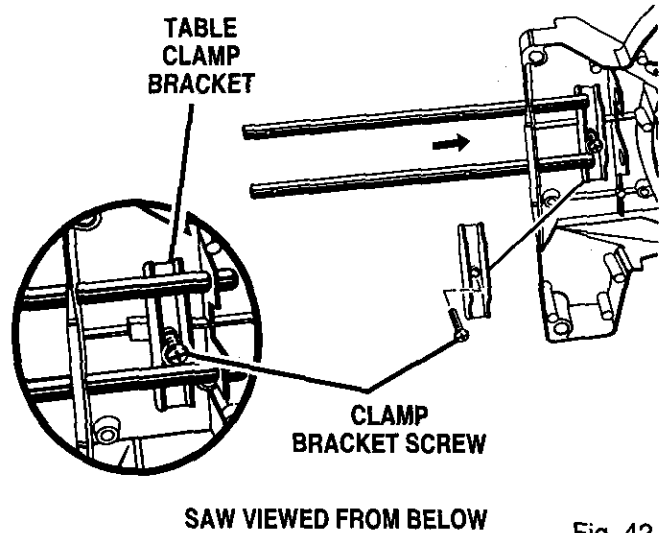

Fig. 42
- Insert support rods into the two holes in the side of the miter saw base. See Figure 42.
- Position table clamp bracket under miter saw base between support rods and bottom of miter saw as shown in figure 42.